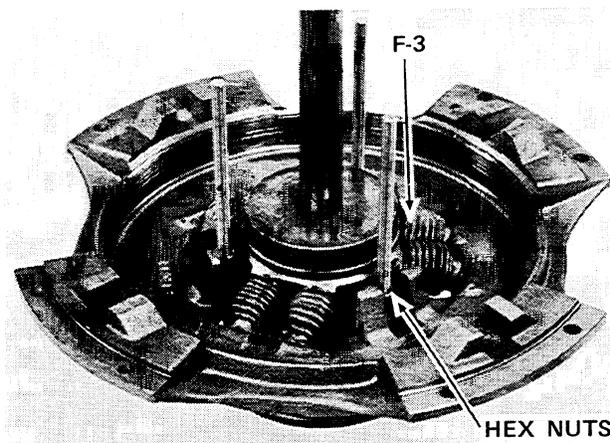

Figure 12:
10. Place assembly on an arbor press with a piece of tubing (see Note), supporting the release sleeve. Compress retainer until drive lugs bottom on flywheel ring and draw three hex nuts tightly against retainer (see Fig. 12).